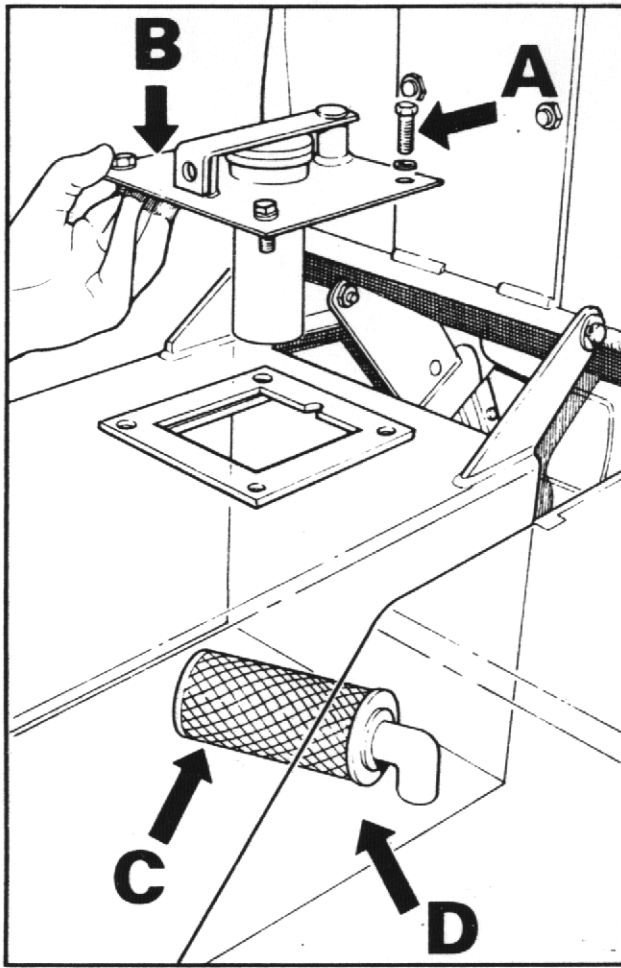

FIG. 7
2. Check that hydraulic filter is not blocked (See Fig.7).
- a) Remove the four setscrews (A) that secure the filler cap assembly (B) and remove assembly.
- b) Unscrew suction filter (C) from inside tank (D) and wash in white spirit. Dry with moisture-free compressed air.